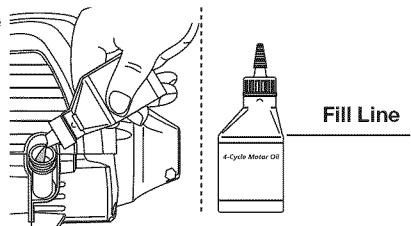

Fig. 32
**NOTE:** Use the bottle and spout saved from initial use to measure the correct amount of oil. The top of the label on the bottle measures approximately 3.04 ounces (90 ml) (Fig. 32). Check the level (Fig. 25). If the level is low, add a small amount of oil and recheck. Do not overfill.